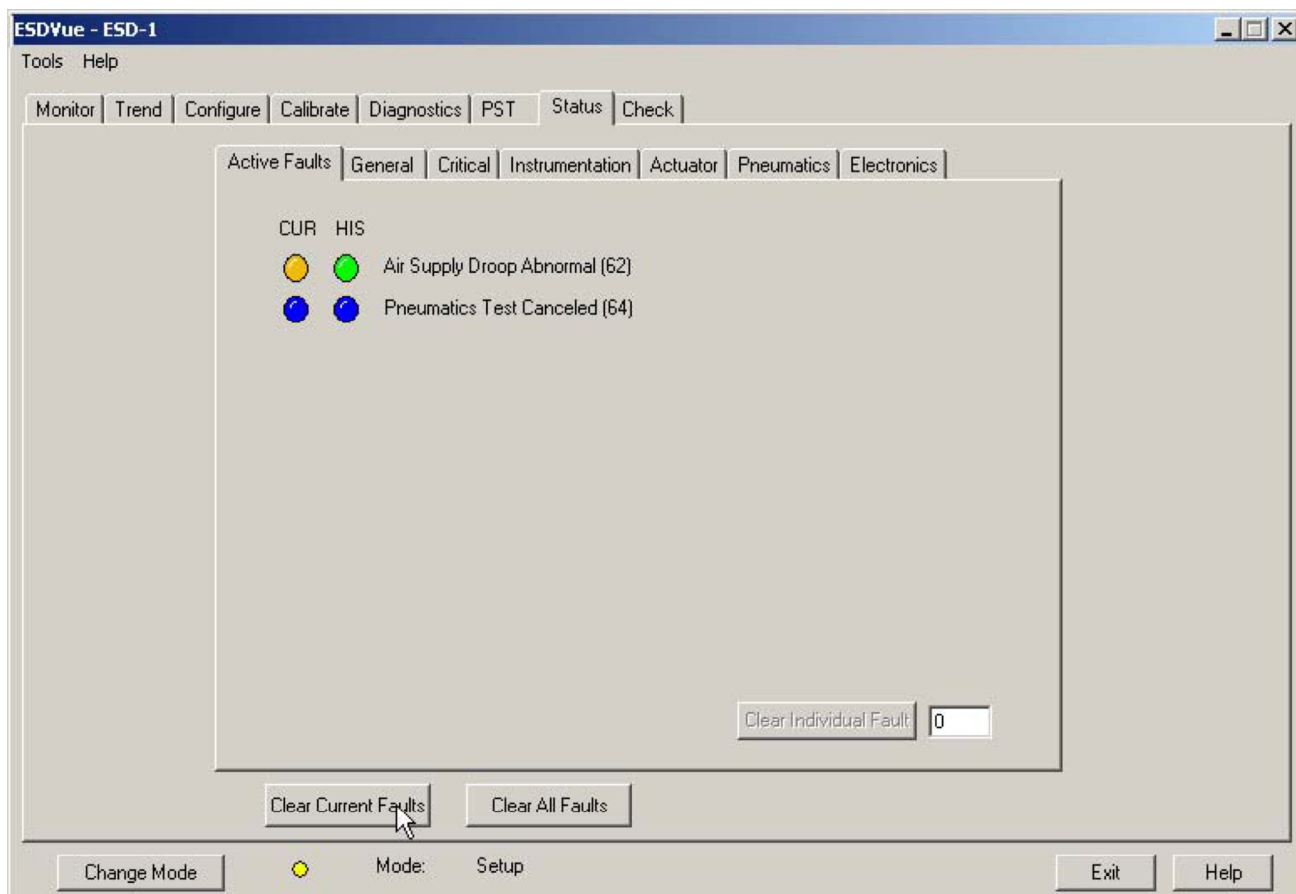

Figure 309 - Executing Clear Current Faults
- Click **Clear Current Faults** (Figure 309).